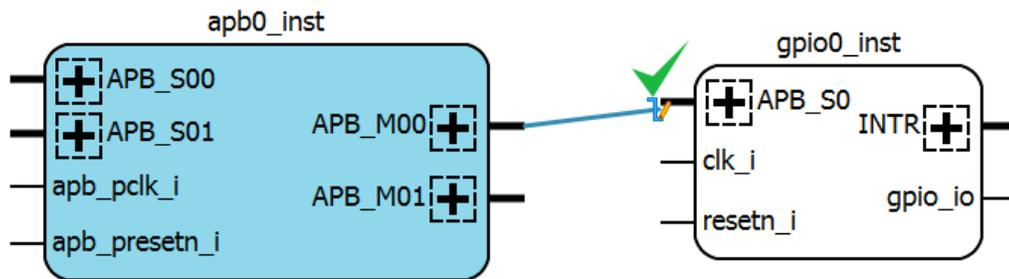
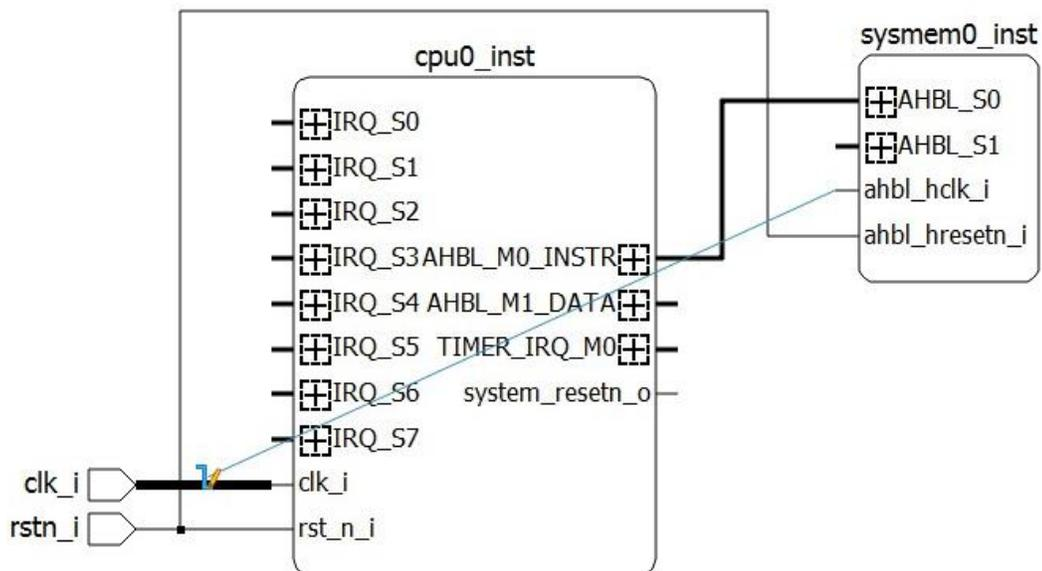

Figure 2.48. Draw a Pin or a Port
Figure 2.49. Draw Nets
- Move the cursor to a pin or port. The cursor changes to a pencil icon . Click and hold while dragging to another pin, port, or net. An allowed pin or port shows a green check-mark when you hover over it (Figure 2.48). An allowed net becomes bold when you hover over it (Figure 2.49).